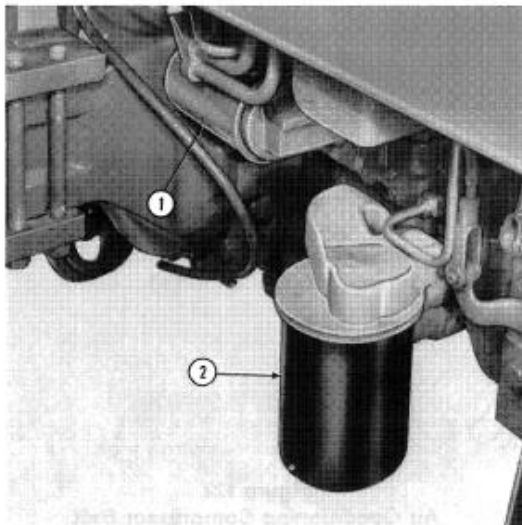

Figure 123
The hydraulic system is equipped with two spin-on type oil filters, Figure 123. Filter (1) is the return oil filter and filter (2) is the pump inlet filter. Replace both filters after the first 50 hours of operation and every 300 hours thereafter following the procedure below.